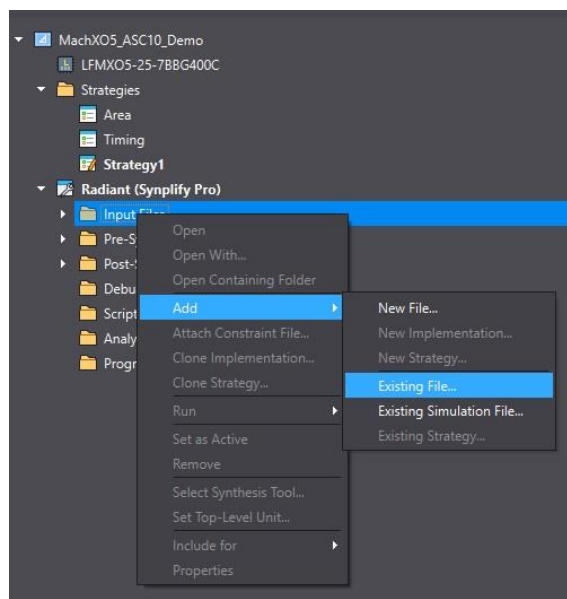

Figure 3.34. Radiant – Input Files, Add Existing File
1. Right-click on the **Input Files** from the File List view, as shown in Figure 3.34, and select **Add -> Existing File**.